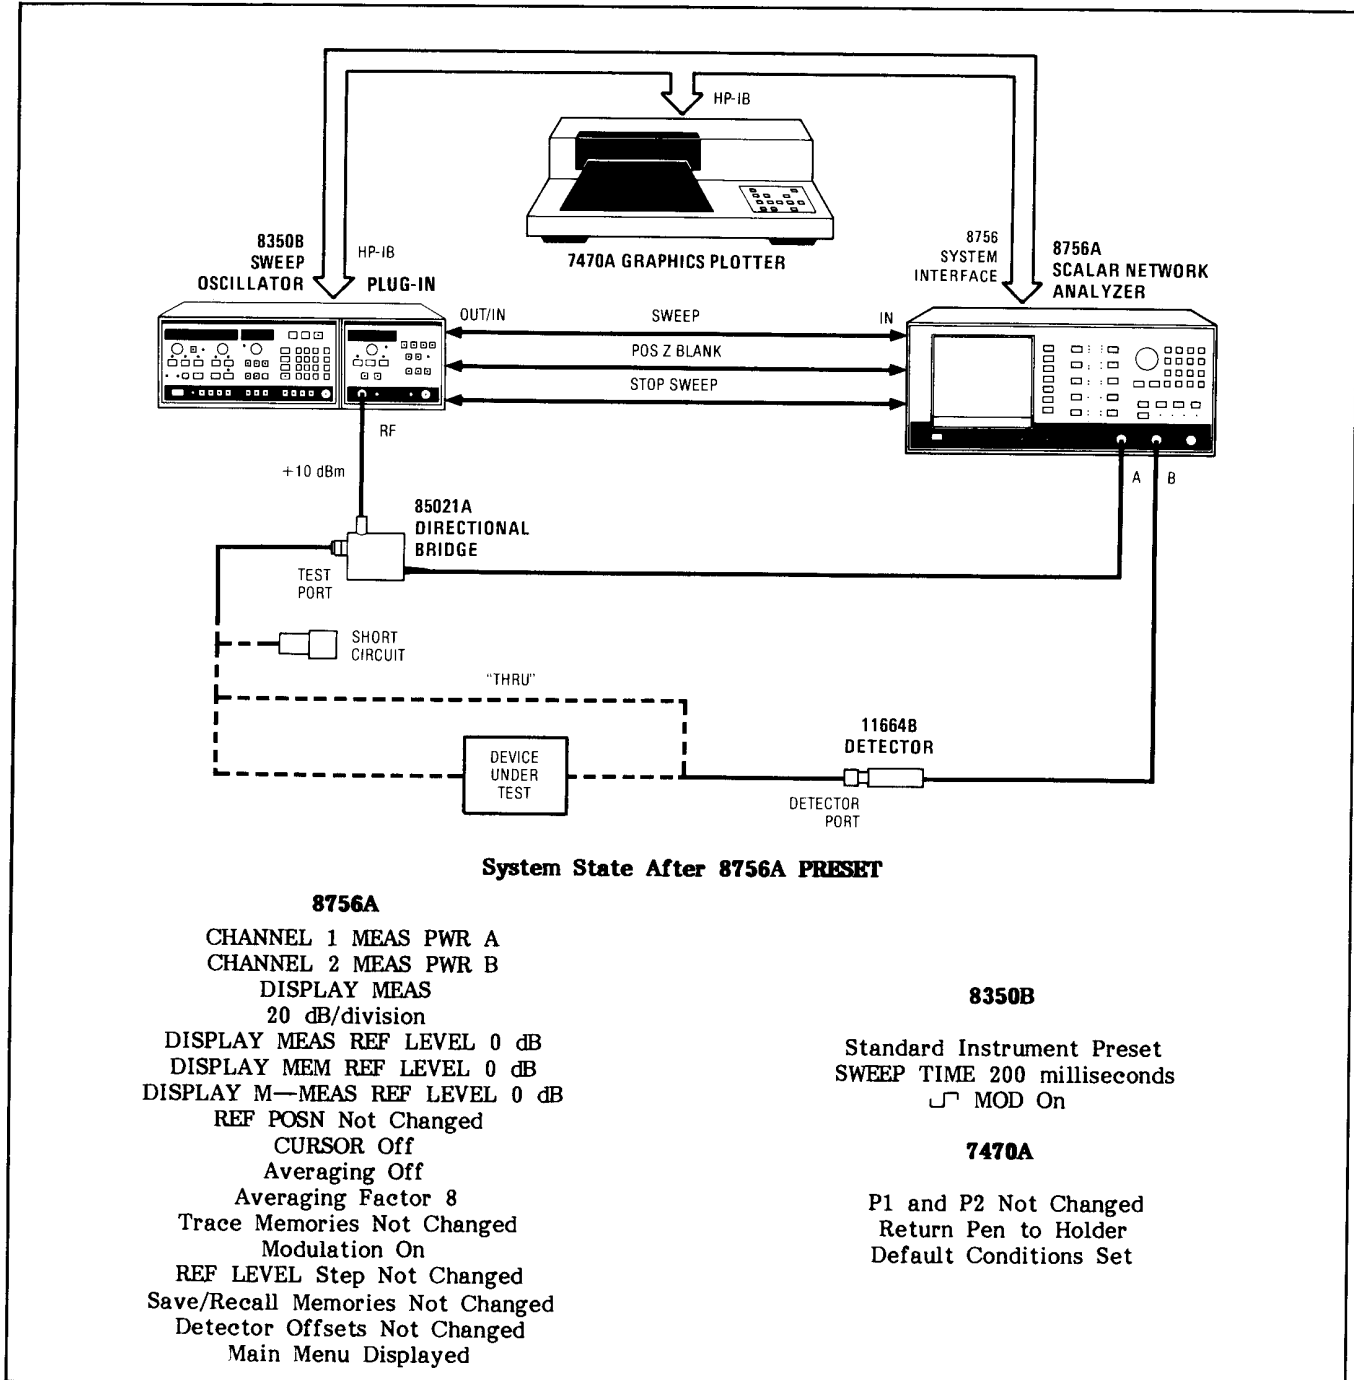

Figure 4. Example of Test Setup
The measurement setup used in this example is shown in Figure 4. It consists of the 8756A, the 8350B with any sweeper plug-in, the directional bridge, the detector, a short circuit, various adapters and cables required to connect the equipment, and a test device with known characteristics. Standard BNC cables are used to make the sweep ramp, blanking, and stop sweep connections. Connect a standard HP-IB cable between the 8756 System Interface and the 8350B HP-IB connectors, then use a second HP-IB cable between the 8350B and plotter HP-IB connectors.
- Connect Test Setup (see Figure 4).
System Preset. Press 8756A **PRESET**. This initializes the 8756A, the 8350B, and 7470A to the PRESET state listed in Figure 4.